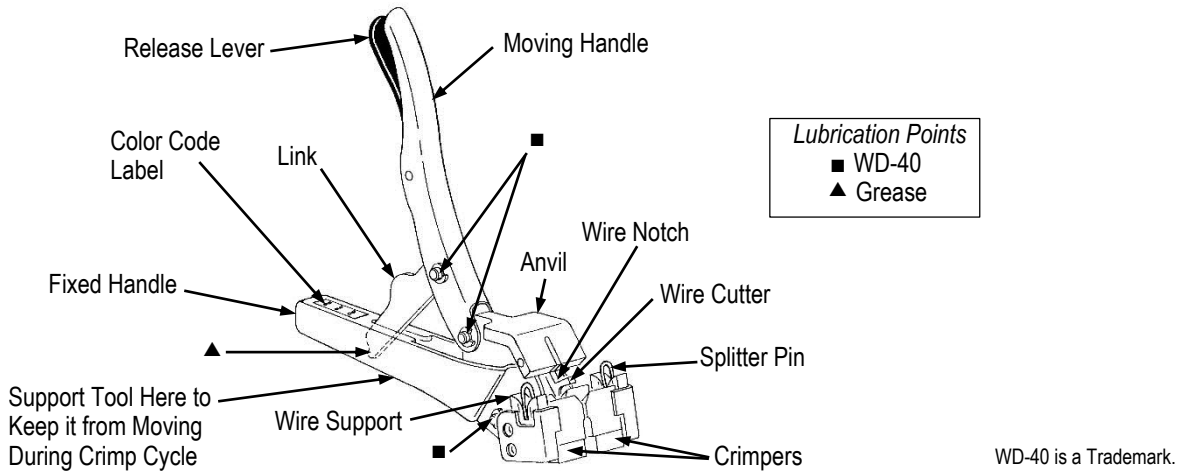

Figure 1
**2. DESCRIPTION** (Figure 1)
The tool must be held steady during the crimping procedure. If it moves before the crimp is completed, the wires may pull out of the connector. See Figure 1.
2. Place the tool in one hand so that you are supporting the center portion of the fixed handle as indicated in Figure 1.
Remove all loose dirt with a clean bristle brush. Then liberally spray the tool with solvent/cleaner and allow it to dry. Remove any particles that you have loosened. Lubricate the tool with WD-40 lubricant and all-purpose grease. See Figure 1 for lubrication points.